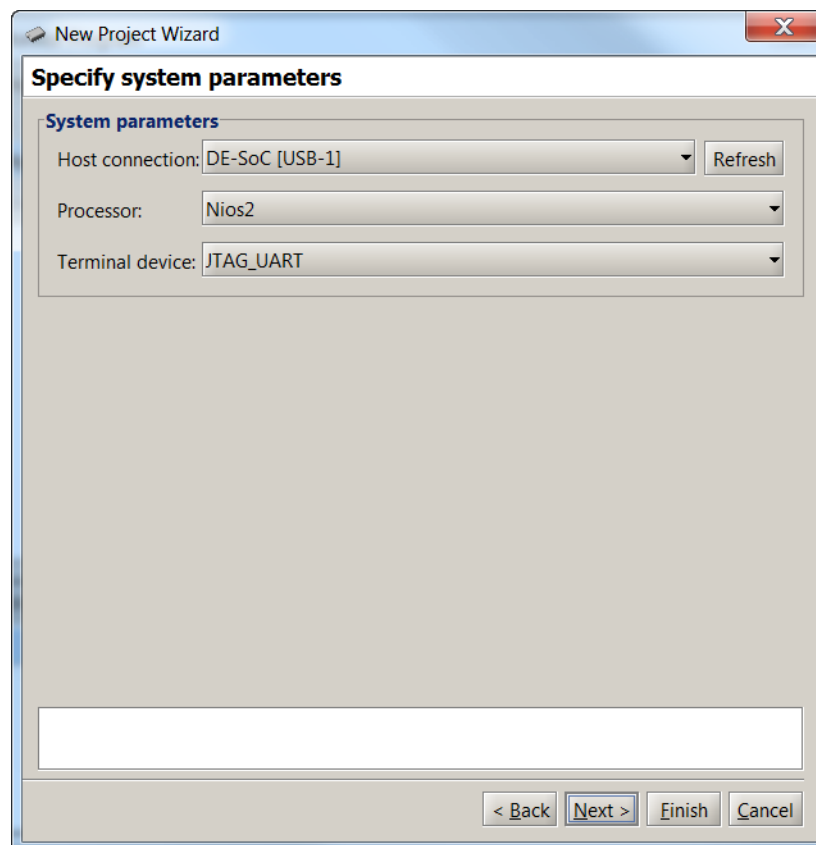

Figure 9. Specifying system settings.
4. Click **Next** to advance to the window in Figure 9. This window is used to specify the connection to the FPGA board, the processor that should be used (some hardware systems may contain multiple processors), and the terminal device. The **Host connection** drop-down list contains the physical connection links (such as cables) that exist between the host computer and any FPGA boards connected to it. The processors available in the system are found in the **Processor** drop-down list, and all terminal devices connected to the selected processor are displayed in the **Terminal device** drop-down list. We discuss terminal devices in Section 6.
Accept the default values that are displayed in Figure 9. If the Host Connection box is blank, make sure that the DE1-SoC board is connected to the host by a USB cable and that its power is turned on. Then, press the **Refresh** button and select the USB Blaster as the desired choice. For the DE1-SoC board the required choice is DE-SoC.